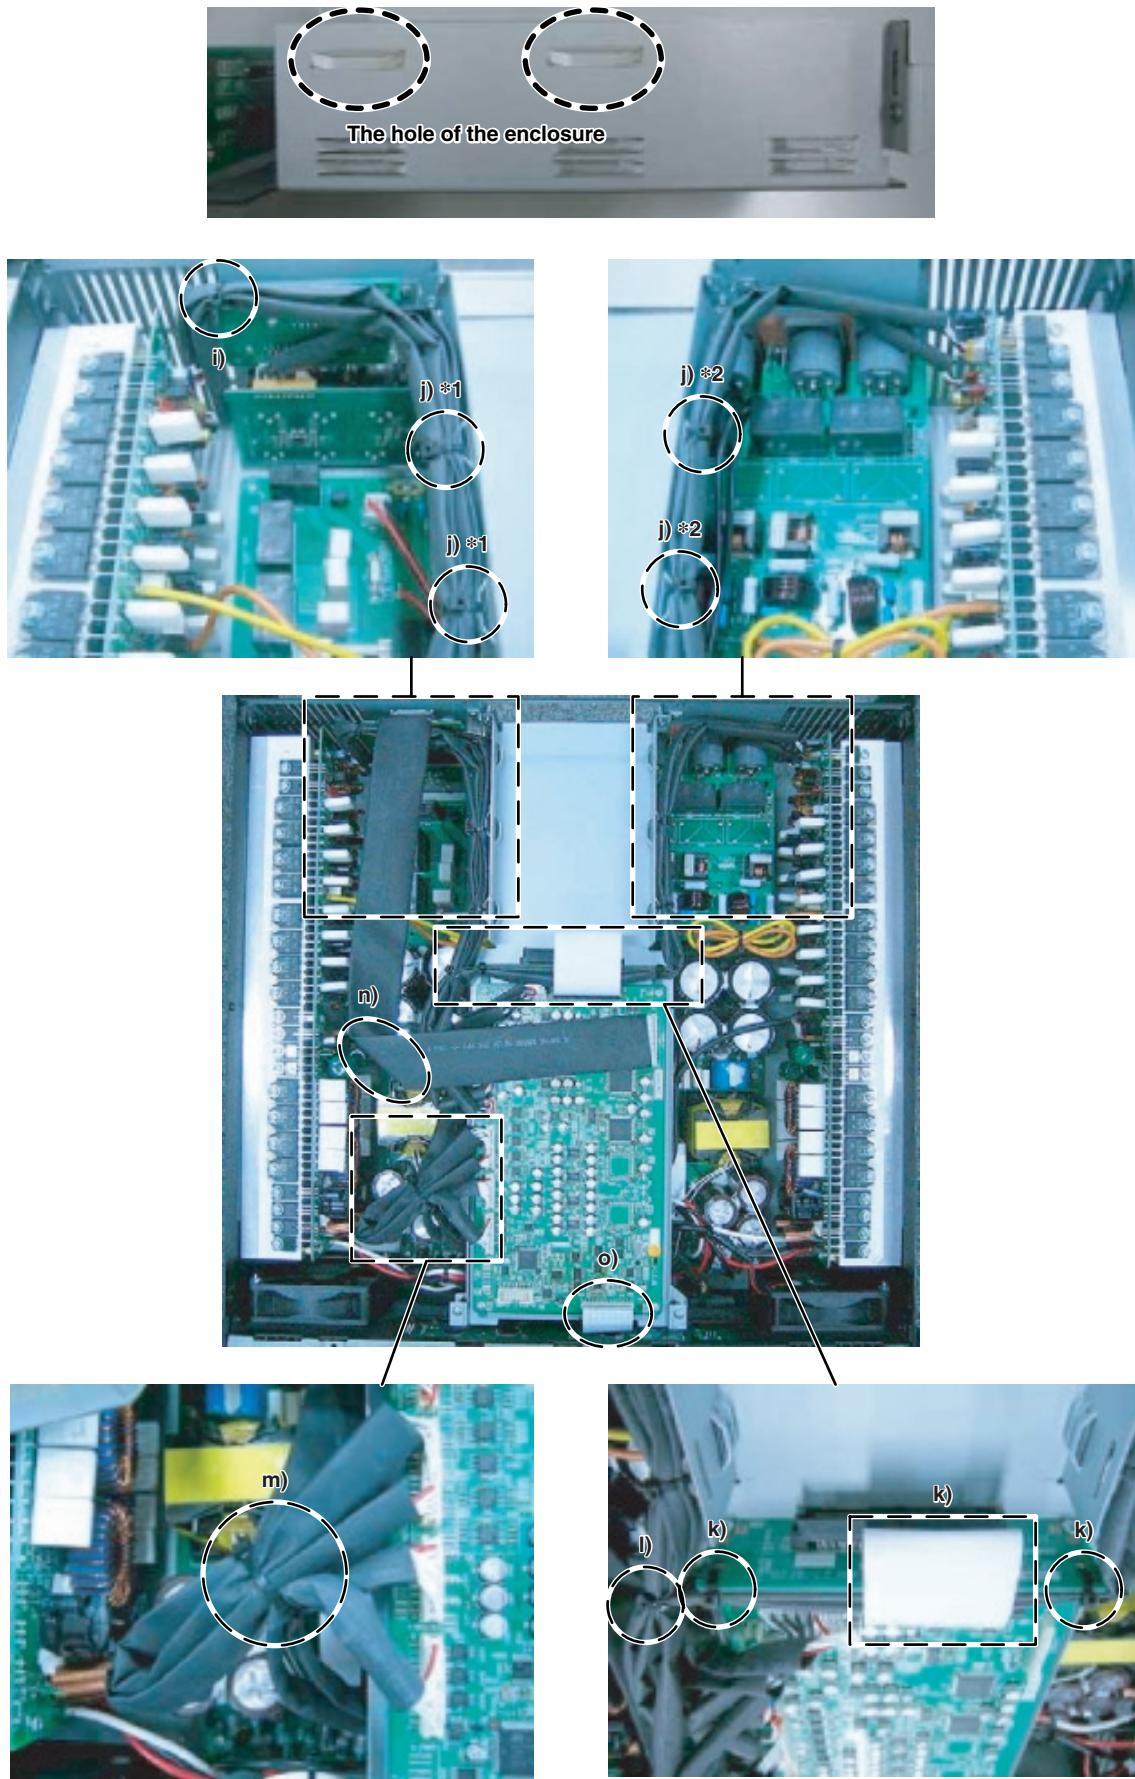

Fig. 22
- i) Fasten the wires (WK02080, WK90770) with a cord holder at the hole of the RS232-GPI circuit board. (Fig. 22)
Fasten the wires (WK90790, WK17110) with a cord holder at the hole of the enclosure. (Fig. 22)
- k) Fasten the wires (WK90790, WK17110) with a cord holder at the hole of the OPT-AN circuit board. Then connect the flat cable (WK02120). (Fig. 22)
- l) Fasten the wires (WK02080, WK90770, WK90790, WK17110 and WK02070) with a cord holder at the position close to the OPT-AN circuit board. (Fig. 22)
- m) Bend the wire (WK02090), and fasten the wires (WK02090, WK68760 and WK68770) with a cord holder. (Fig. 22).
- n) Bend the flat cable as shown in the figure. (Fig. 22)